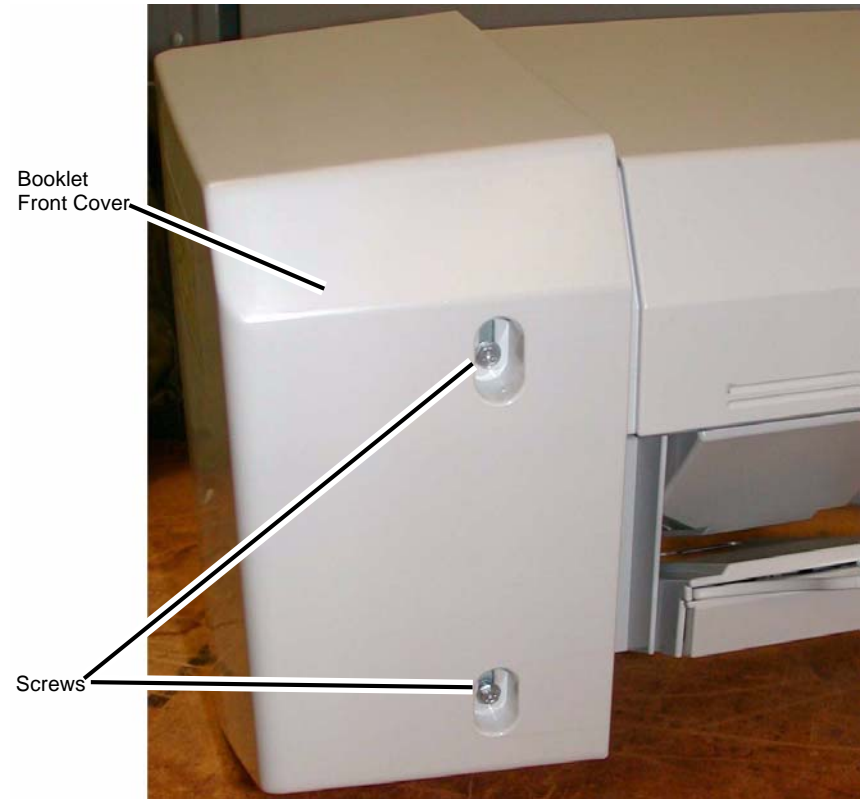

Figure 2 Removing the Booklet Front Cover
- (2) Remove the Screws (2) (Figure 2).
- (3) Remove the Booklet Front Cover.